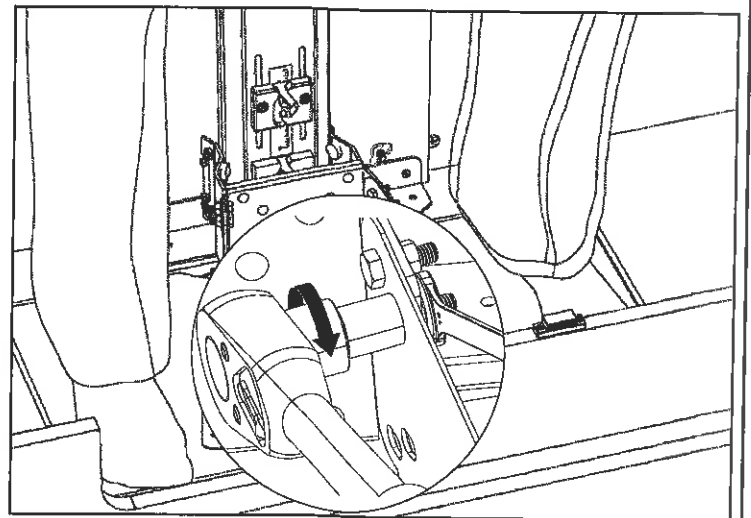

FIG. 18
**Step 19.** Using 2 people, a 10mm wrench and an adjustable wrench tighten down the 10 mm hexhead bolts (x8) on the metal wings and airlift carriage. To prevent the Platform (P) from rising up as it is being tightened, have the second person stand on the platform while another tightens the 10 mm hexhead bolts (x8) down. The even pressure applied will help the platform to not rise up. Make sure the cabinet is on a level sewing surface. See Fig. 18.